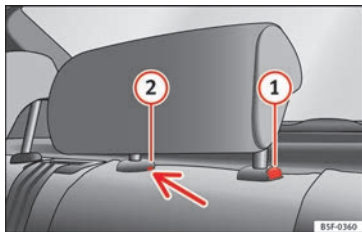

Fig. 106 Rear centre head restraint: release point.
- To set the head restraint lower down, press the  » **Fig. 106** button and move it downwards.
- Press the  » **Fig. 106** button while at the same time removing the head restraint from the backrest » .
- Insert a screwdriver in the  » **Fig. 106** position of the hole while at the same time removing the head restraint from the backrest » .